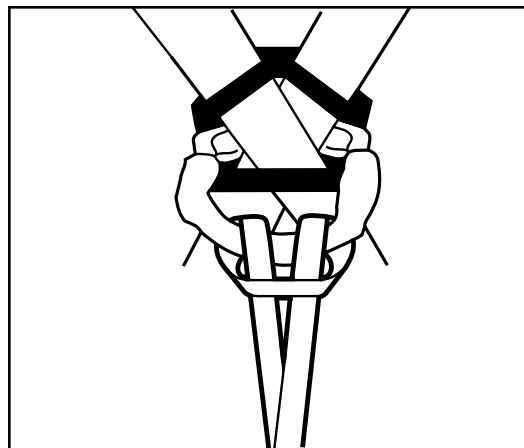

Figure 1: Loop D-Ring with Loop Lanyard
4.1.3 For Lanyards with Loop attachment: Always connect the loop to the harness D-ring or D-Ring loop. See Figure 1.